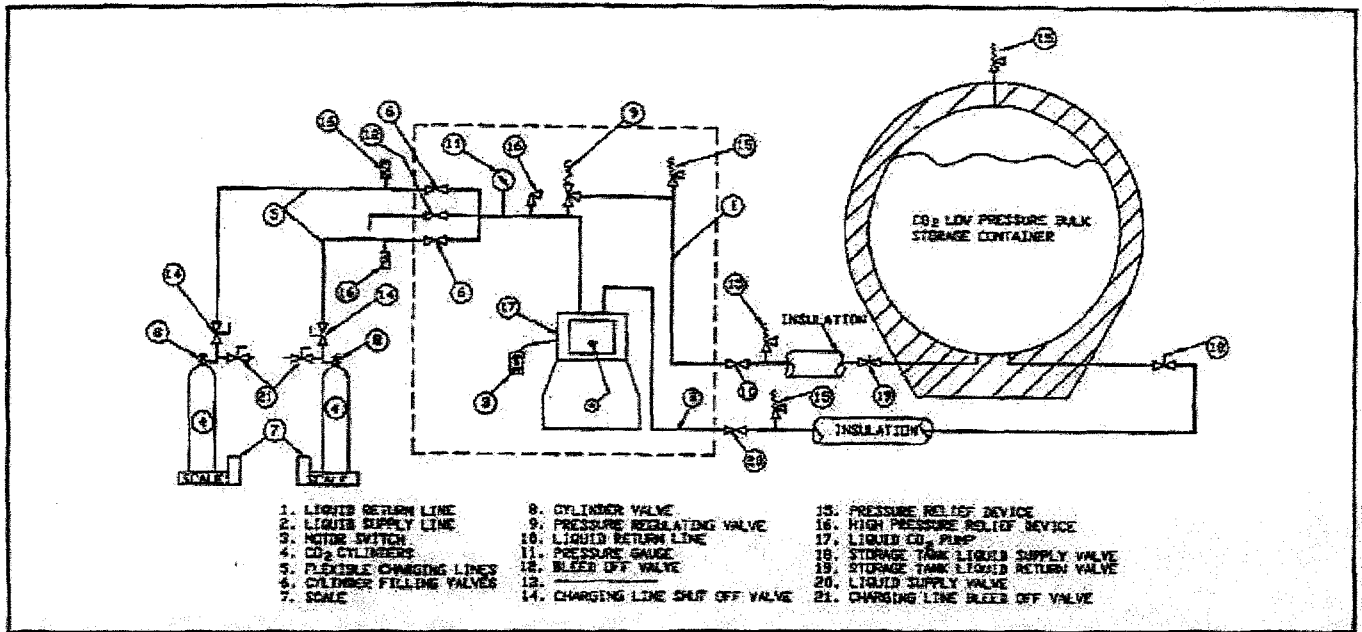

Fig. 2.2 Typical CO₂ Cylinder Filling System Schematic
2-7 GENERAL. The charging lines and valving used between the cylinder filling unit and the cylinders being filled may vary. Figure 2-2 illustrates the recommended valving on the charging lines.
2-10. OPERATING PROCEDURE. Open the storage tank liquid valve(s) (18&20, figure 2-2). This will pressurize the pump (17) through the inlet valve, the pressure regulating valve (9), the cylinder filling valves (6) and bleedoff valve (12).
2-11. With the handle of the pressure regulating valve (9, figure 2-1) raised, open the return valve(s), to the storage unit, and open the storage tank vapor valve (10,19 figure 2-2). All carbon dioxide circulated through the pump will now return to the storage tank until the regulator valve handle is lowered and a pressure adjustment is made. The entire cylinder filling unit is now at storage tank pressure.
2-15. FILLING A SINGLE HIGH PRESSURE CYLINDER. Open the appropriate cylinder filling valve (6, figure 2-2), charging line shutoff valve (14) and cylinder valve (8).
2-19. See figure 2-2 for reference to cylinders A, B, and C discussed in the following paragraphs. The following procedure should be adhered to when filling cylinders alternately. With cylinders A and B attached to the flexible charging lines and the operating instructions in paragraphs 2-10 through 2-14 performed, open the cylinder filling valve (6), charging line shutoff valve (14) and cylinder valve (3) to cylinder A.
2-24. Figure 2-3 illustrates the appearance and location of the components referenced in the preceding operational text to figure 2-2.